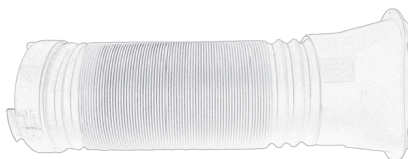

Fig. 2
3. Screw the mounting ring (19) on one end of the duct (18). The three prongs on the outer edge of the ring (19) must be on the outside of the duct (Fig. 2). Screw the mounting connector (20) on the other end of the duct (18).